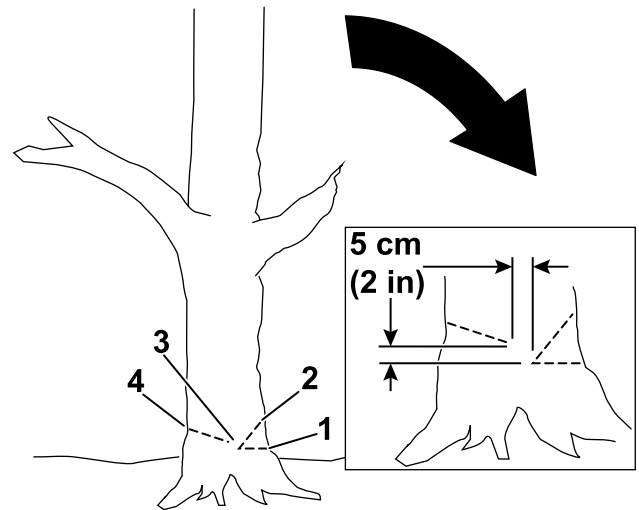

Figure 17
4. Make the first cut a third of the way through the tree diameter on the side where you want the tree to fall (Figure 17).
5. Make a second cut to form a notch, starting the cut at least 5 cm (2 inches) above and away from the first cut (Figure 17).
6. Make the back cut from the opposite side of the notch and about 5 cm (2 inches) higher than the bottom of the notch as shown in Figure 17.
**Important:** Stop the third cut 2.5 to 5.0 cm (1 to 2 inches) from the notch to form a hinge between the cuts (Figure 17), which keeps the tree from falling in the wrong direction or twisting as it falls.
**Note:** As the back cut nears the hinge (Figure 17), the tree should begin to fall.